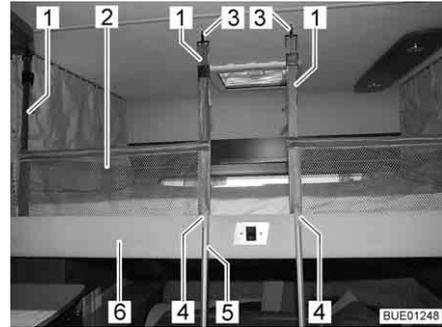
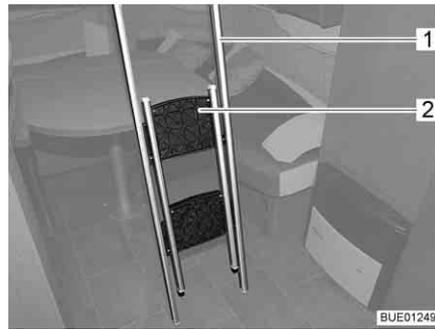
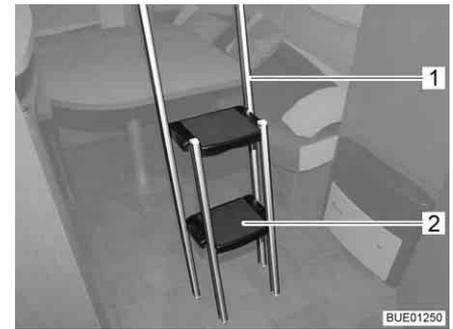

Fig. 75 Pull-down bed complete with applied safety net
Fig. 76 Access ladder, folded in
Fig. 77 Access ladder, folded out
The safety net (Fig. 75,2) and the retaining belts are located underneath the mattress in the pull-down bed. Only use the safety net if persons are already in the pull-down bed.
- Attach the retaining belts (Fig. 75,1) to the hooks (Fig. 75,3) on the ceiling.
- Hook access ladder (Fig. 75,5) to the pull-down bed by attaching the two hooks (Fig. 75,4) in the holding bar (Fig. 75,6).
- Grasp the upper edge of the folded-up part (Fig. 76,2) of the access ladder (Fig. 76,1) and unfold it so that all four feet are securely on the ground (Fig. 77).
- Fold in steps (Fig. 77,2).
- Hang the access ladder (Fig. 77,1) from the holding bar (Fig. 75,6) on the pull-down bed.